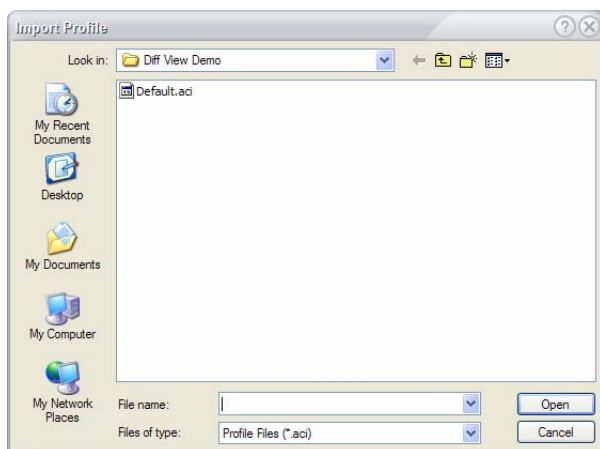

Figure 12-10: Importing a profile
- 3) Click **OK**. The Import Profile dialog box appears. See Figure 12-10.